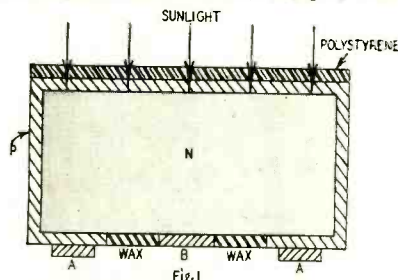

Fig. 1
Each cell is a p-n junction, formed of n-type silicon with boron diffused to make a p-type border around it (Fig. 1). The p material is only 0.1 mil thick to permit light to fall onto the junction itself. Two metal terminals (A) are electroplated to each end of the p material to lower lead resistance. A single lead (B) is connected to the n material. Wax seals off the cell and reduces leakage between A and B. A polystyrene layer reduces reflection on the side facing the light source.